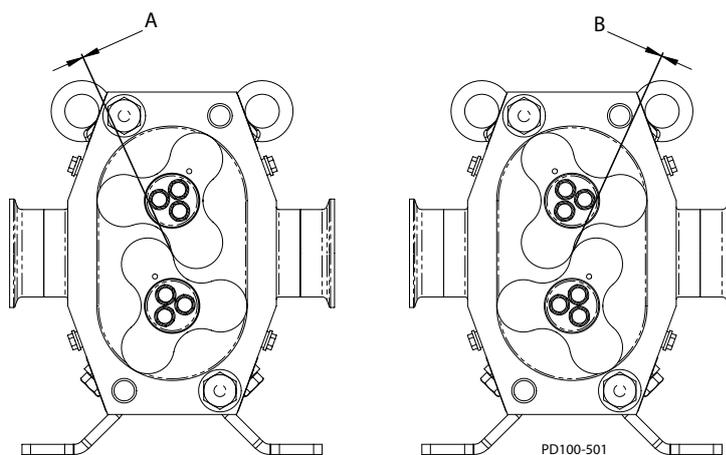

Figure 63 - Rotor Clearance
10. Check the rotor-to-rotor clearance at the positions shown in Figure 63.
11. The "A" and "B" clearance dimensions shown in Figure 63 must be within the ranges specified in Table 11 at all positions. Adjust the gear position on the drive shaft as required.